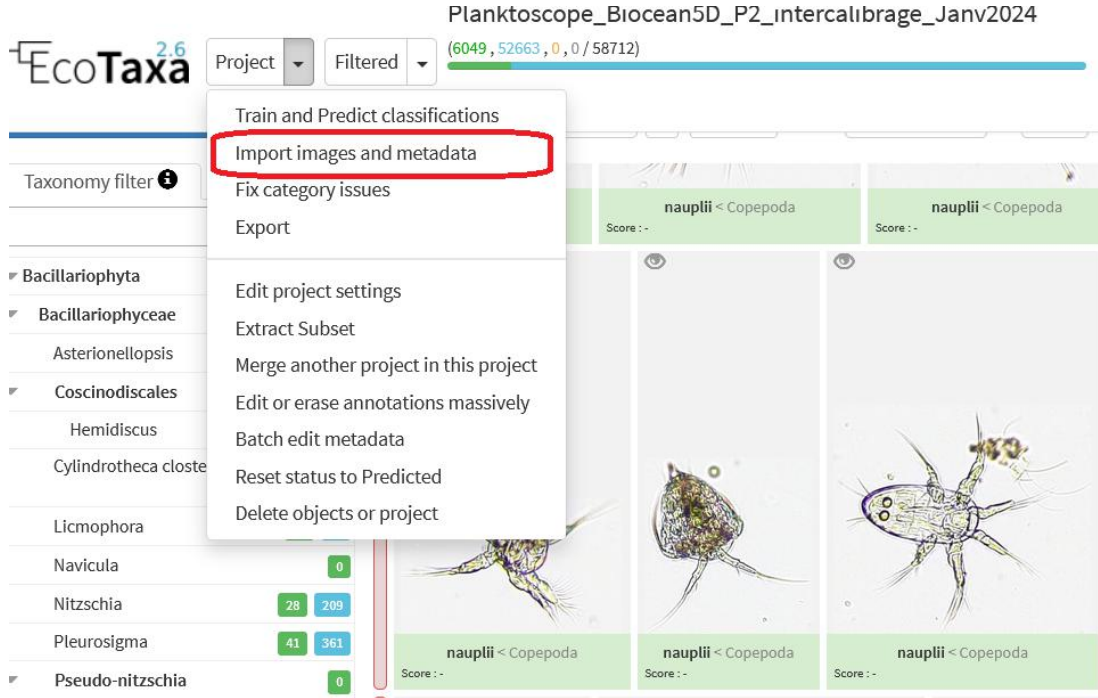

Figure 6: How to import images and metadata.
1. In your project: on your project options button, select import images and metadata (Fig.6)